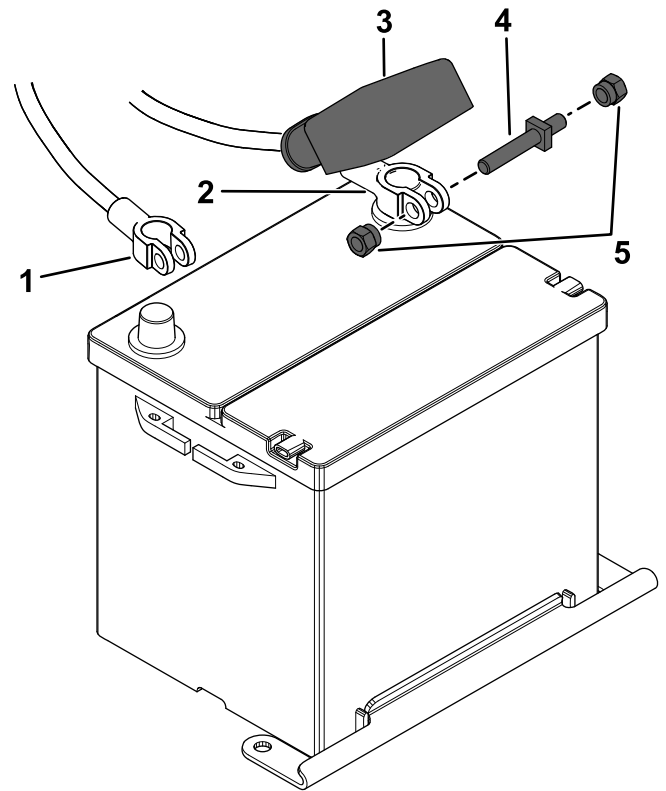

Figure 4
1. Connect the positive battery cable (red) to the positive (+) terminal of the battery and secure the cable using the bolt and nuts (Figure 4).
2. Slide the insulator boot over the positive terminal (Figure 4).
3. Connect the negative battery cable (black) to the negative (-) terminal of the battery and secure the cable using the bolt and nuts (Figure 4).